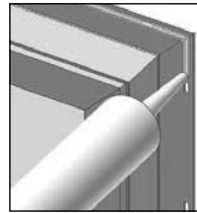

FIG. 12
- Apply a 1/4" diameter bead of 100% neutral cure silicone sealant along the backside of the nailing flange. (Fig. 12)
- Bead must run continuously around both sides and across the head, in line with and completely covering the nailing flange holes. (Fig. 12)